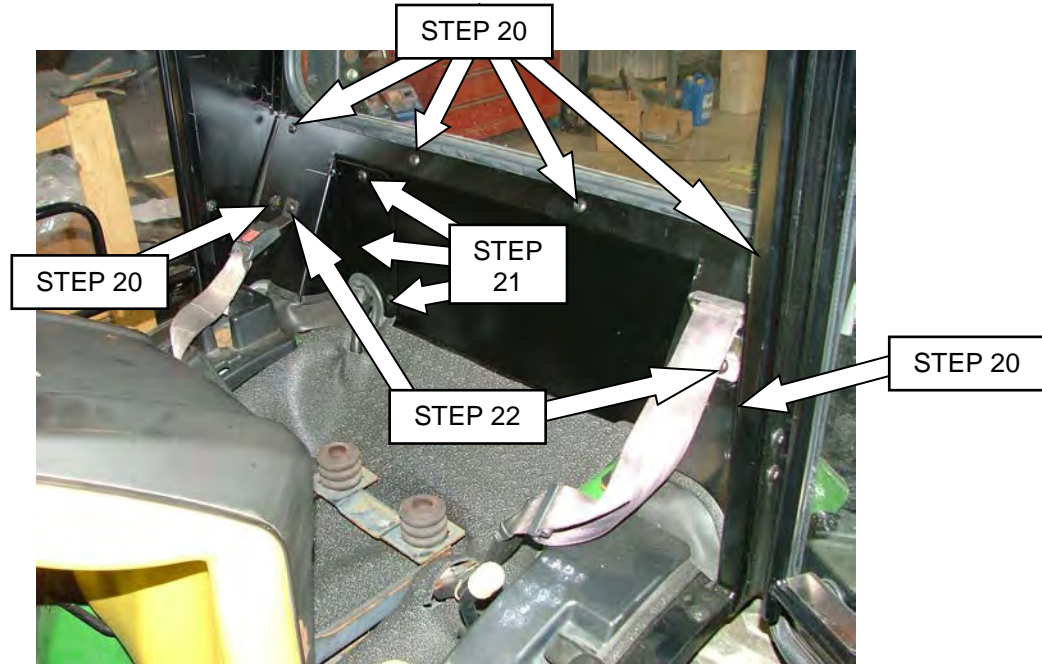

FIGURE 11
20. Secure rear panel (1) to back of cab using **(Figure 11)**;
(6) 5/16" flange nuts (A)
21. Install rear cover panel (8) to rear seal panel using **(Figure 11)**;
(2) 5/16" flange nuts (A)
22. Re-secure seat belt holder brackets to rear panel by reusing hardware from step 5 **(Figure 11)**.